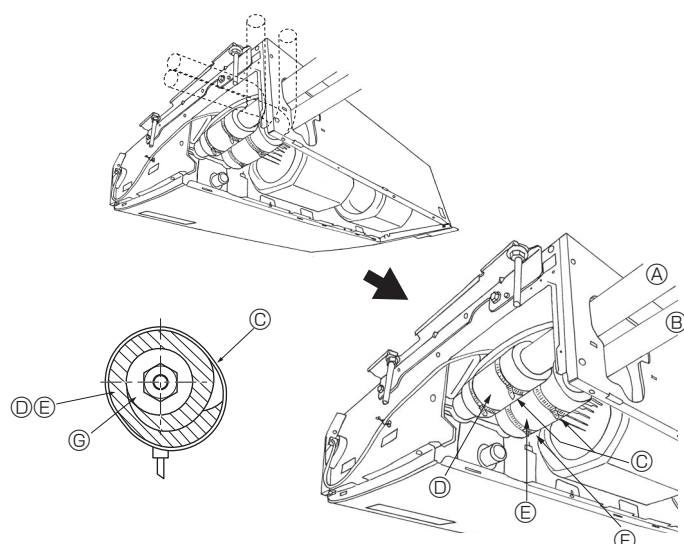

Fig. 4-3
③ Apply refrigerating machine oil over the entire flare seat surface.
④ Use correct flare nuts meeting the pipe size of the outdoor unit.
4.3. Indoor unit (Fig. 4-3)